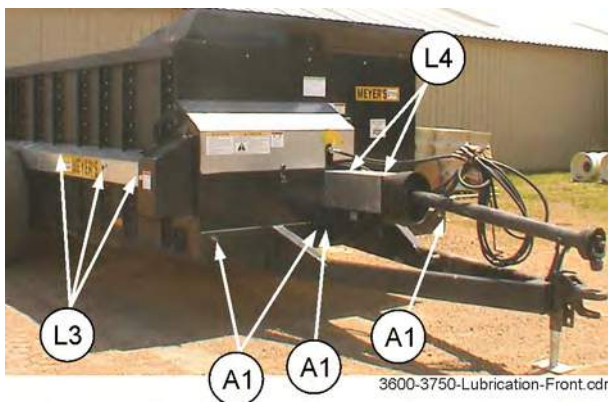

FIGURE 10
- (L3) Grease four bearings on the side drive shaft and bearing at front end of shaft one pump every 8 hours. Figures 10 and 11.